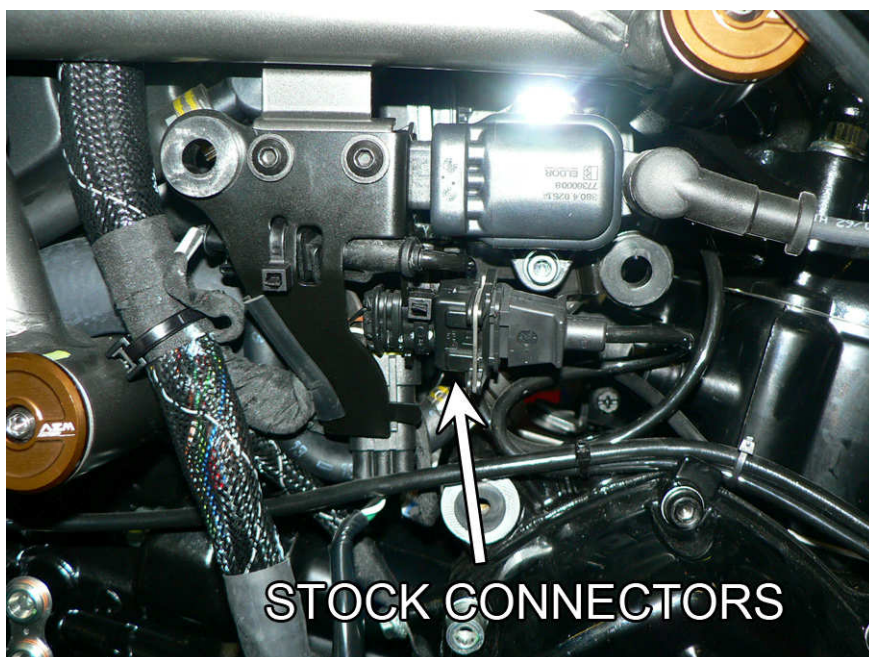

Fig.4
7. Locate and disconnect the black 3 pin connector placed down on the left side (**Fig.4**).